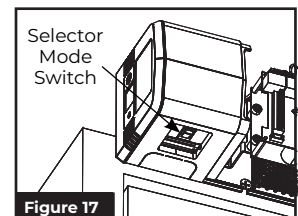

Figure 17
1. Orient union assembly so access door covering selector mode switch faces floor. (Figure 17)